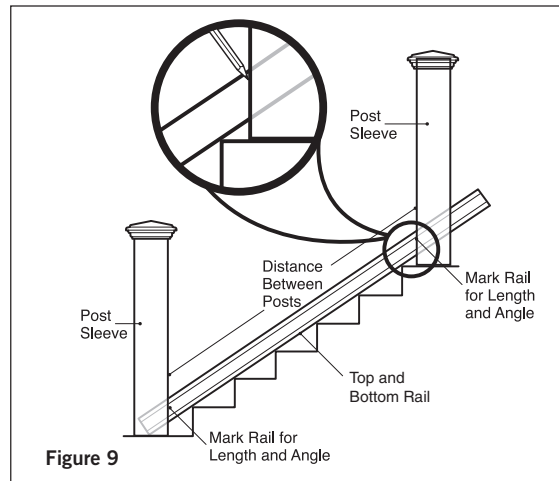

Figure 9
Step 4 Measure the distance between installed post sleeves to determine the length of the top and bottom rails. Lay bottom rail on stairs with the pre-drilled holes facing down. The distance between the post and first baluster should be less than 4" and equal on both ends. Mark the angle and length. Do the same with the top rail. Remove an additional 1/4" on both ends (1/2" overall) for the bracket to fit between the rail and post. Trim the top and bottom rails to length with the same angle (**Figure 9**).